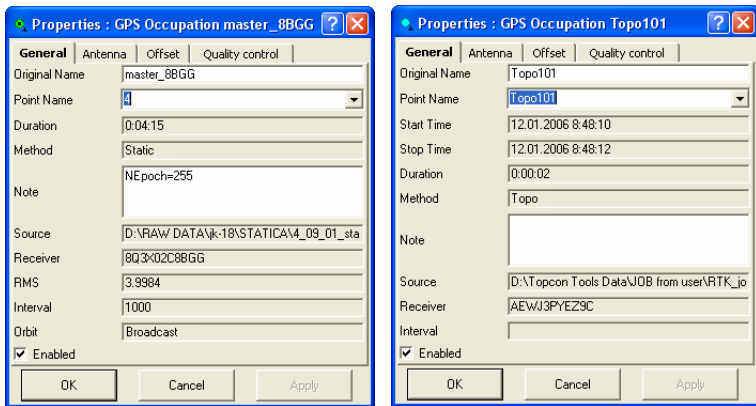

Figure 5-99. General Properties
2. View or edit *General* tab fields (Figure 5-99 on page 5-69). The fields vary, depending on the type of occupation selected.